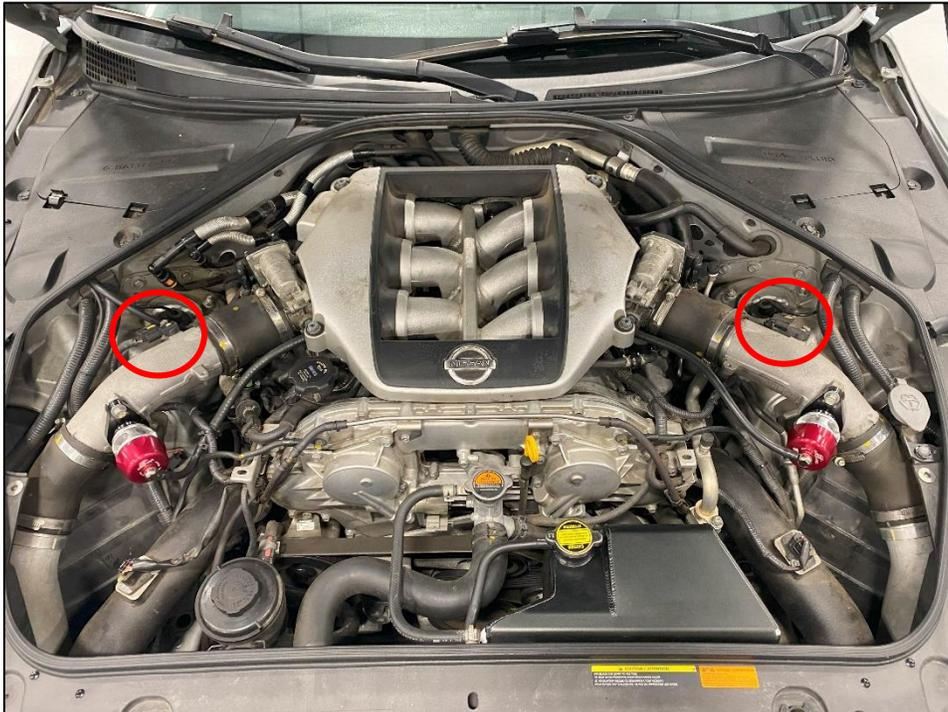

Figure 2
4. Unclip the (1) one Turbo Boost Sensor on each intake, circled below. *Figure 2.*